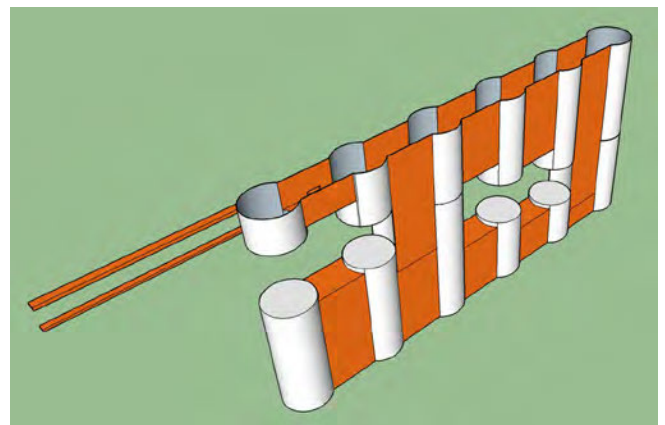

Figure 1: Schematic diagram of VeCS.
**Tourné:** There are several options, but let me describe a very basic example: Drill a row of holes, in the diameter range 0.1 mm to 0.5 mm, close together and separated by narrow webs of material. Remove these webs of material by drilling, routing or laser cutting, preferably on the same machine to achieve best registration. Once the structure has been formed, use standard PCB processes to clean, metallise and plate-up, then image and etch the surface conductor pattern. Finally, selectively remove copper from the plated cavity by drilling, to leave vertical copper traces where conductors are required. Perhaps a schematic diagram would help you to visualise the result (Figure 1).